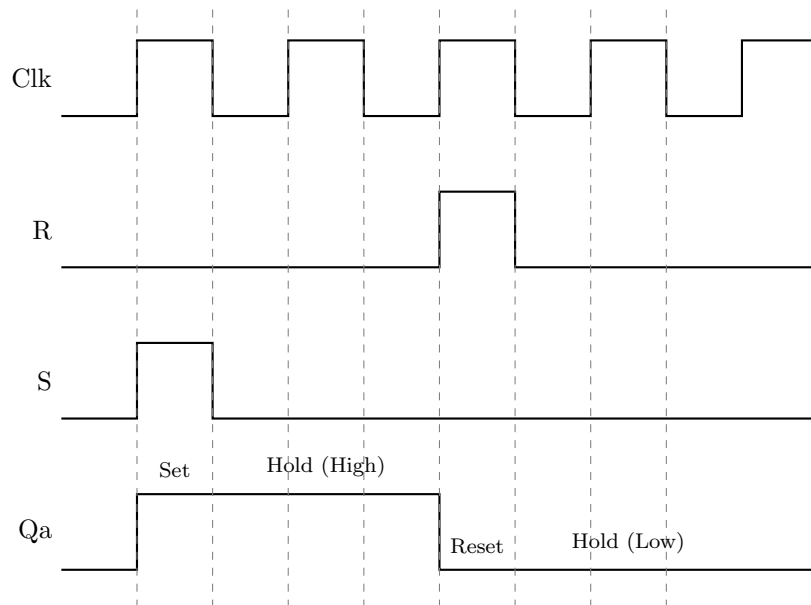

Figure 4: Expected waveforms for the RS latch.
7. Simulate the behavior of your VHDL code by using the simulation feature provided in the Quartus software. First, create a vector waveform file (*.vwf) using the Quartus software to specify the inputs and outputs of your circuit. Then, use the commands available in the Quartus Simulation Waveform Editor tool to run a simulation of the circuit. The resulting waveforms should look similar to those shown in Figure 4.